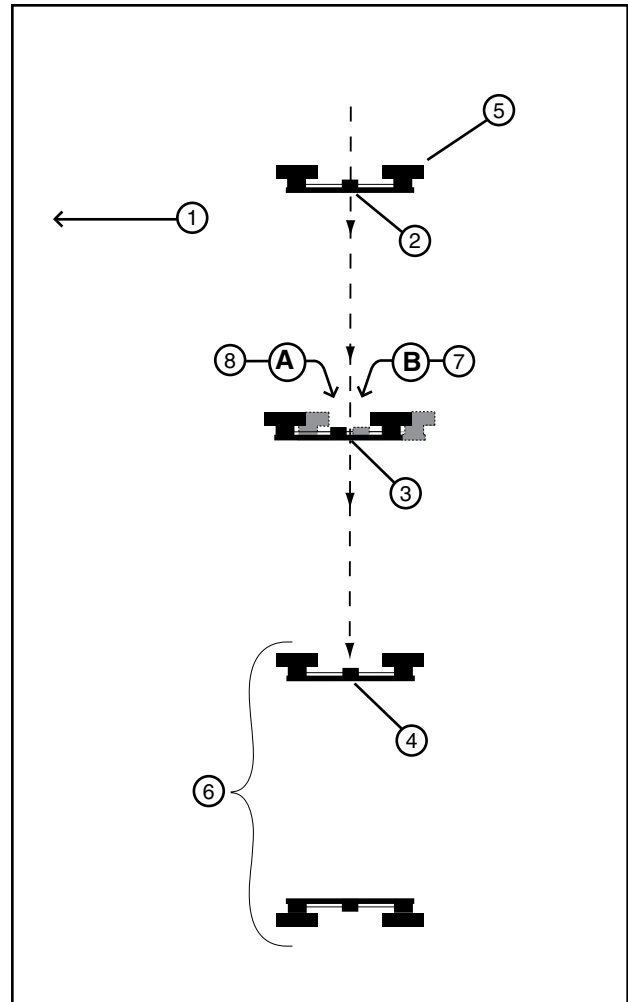

Figure 85-1 1. Direction of Travel 5. End Tower
2. Begin the alignment procedure from an end tower. Identify the first three towers as 1, 2, and 3. Use towers 1 and 3 to align tower 2. See Figure 85-1.
3. Sight an imaginary center line between the center of the tower drive motor 1 to the center of the tower drive motor 3. See Figure 85-1.
4. Observe the movement of the tower drive motor 2. It should start and stop equal distances from the imaginary center line. See Figure 85-1.